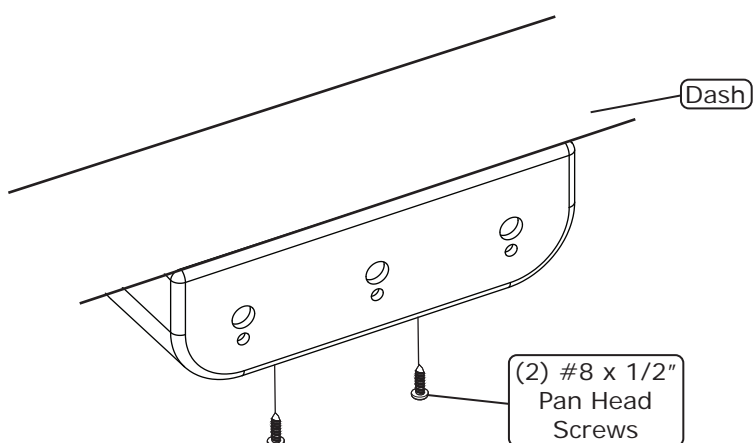

Figure 1
1. Install the control panel pod under the dash using (2) #8 x 1/2" pan head screws as shown in Figure 1, below.